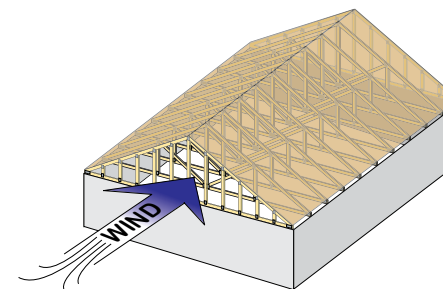

Figure 4. Building designers should specify how gable end frames are to be braced to transfer lateral loads such as wind.
- ❑ Wind and seismic loads applied to the gable frame laterally need to be resisted as shown in Figure 4.
Gable end bracing is another area that is often overlooked. Truss suppliers often supply gable end frames as a convenience to the contractor. Like trusses on the building, the truss designer designs the gable end frame for the loads in the plane of the truss. Loads applied to the gable frame laterally, such as wind and seismic loads, need to be resisted with CLRs and diagonal bracing (see Figure 4). Again, the building designer is responsible for designing the building stability bracing, including the gable end bracing. For more detailed explanations of these concepts, see all of the BCSI documents at www.sbcindustry.com/bcsi.php. **SBC**